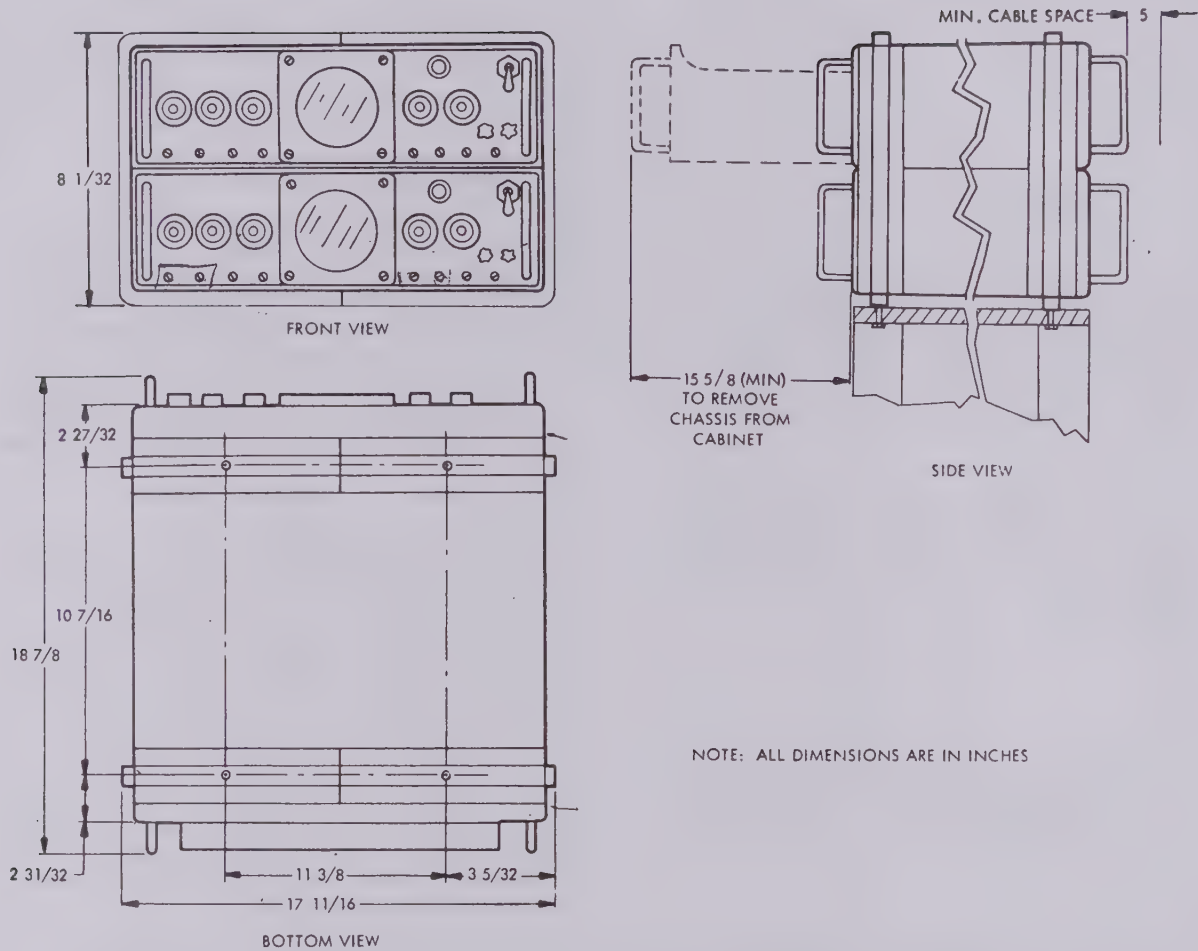
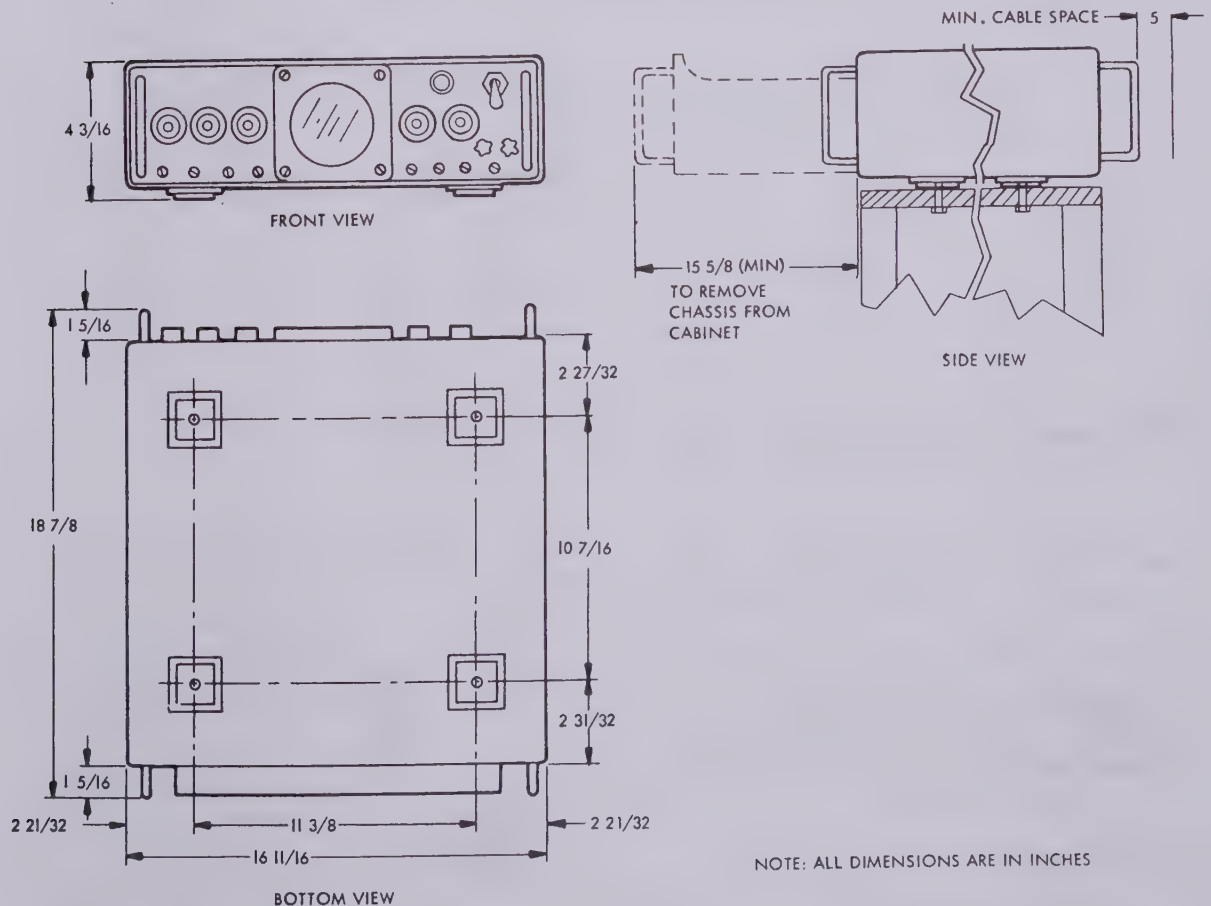

Figure 2-1. Comparator-Converter Group AN/URA-17, Table-Mounting Installation Drawing
Figure 2-2. Frequency Shift Converter CV-483/URA-17, Table-Mounting Installation Drawing
a. **OUTLINE DRAWINGS.** - Figure 2-1 shows all mounting dimensions and clearances required for table-mounting the AN/URA-17. Figure 2-2 shows all mounting dimensions and clearances required for table-mounting the CV-483/URA-17. Figure 2-3 shows all mounting dimensions and clearances required for rack-mounting the CV-483/URA-17.
- Step 1. Layout and drill four 9/32 inch holes (figure 2-1) through mounting surface.
- Step 1. Layout and drill four 9/32 inch holes (figure 2-2) through mounting surface.